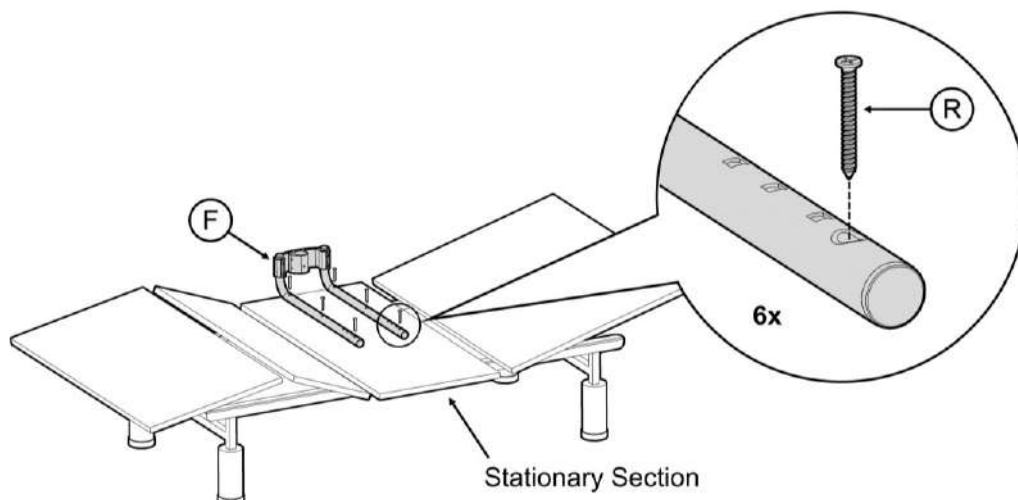

FIGURE 14
13. Attach assembly to legs to Stationary Section of bed base using **R** – do not overtighten screws. **FIGURE 14**